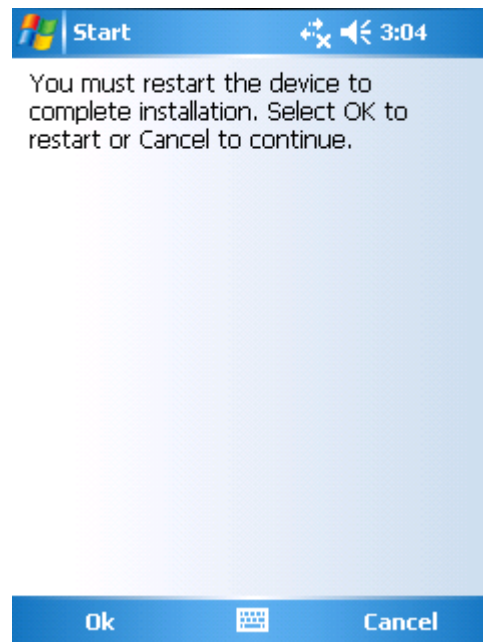

Figure 4
5. Restart the device to complete installation, as figure 4.